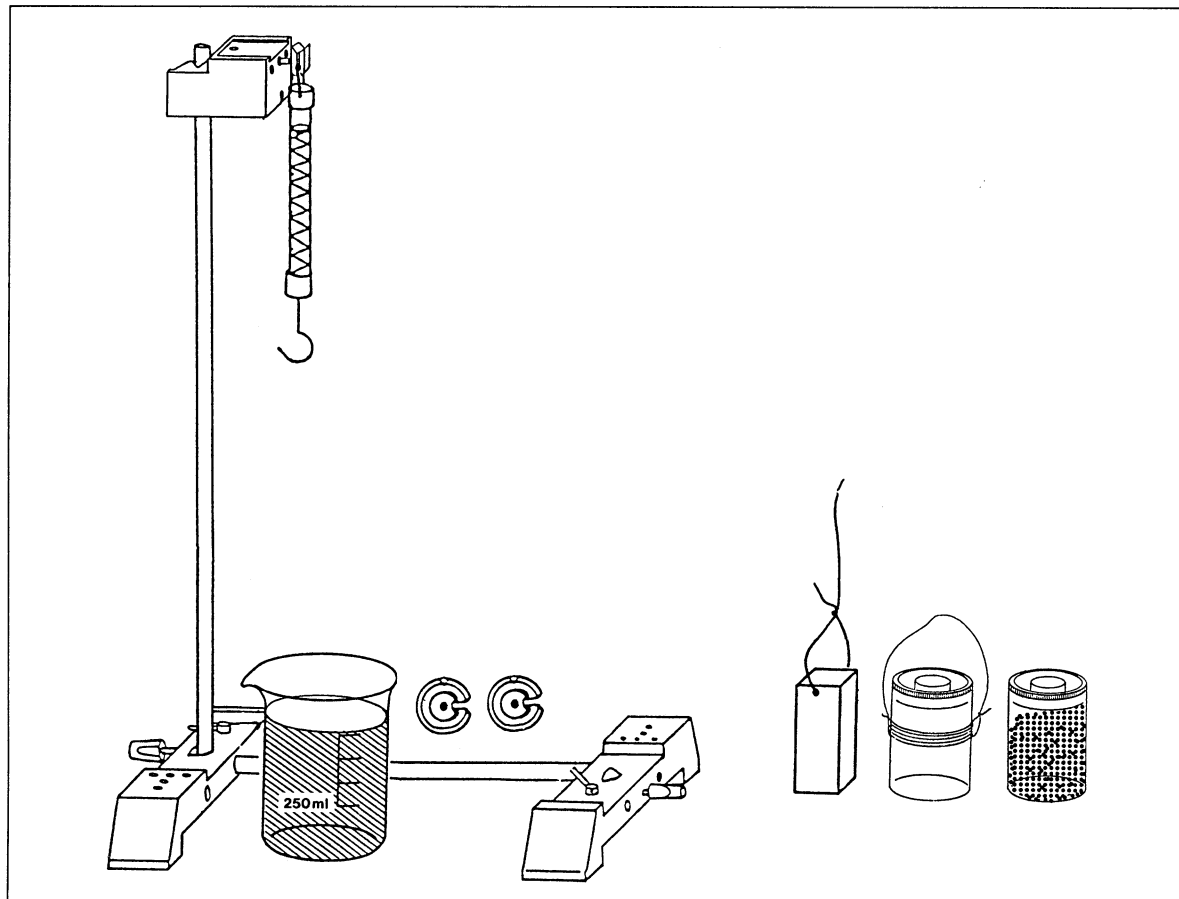

Fig. 1 Setup for investigating the weight of bodies in water
1. Set up the stand as shown in fig. 1.